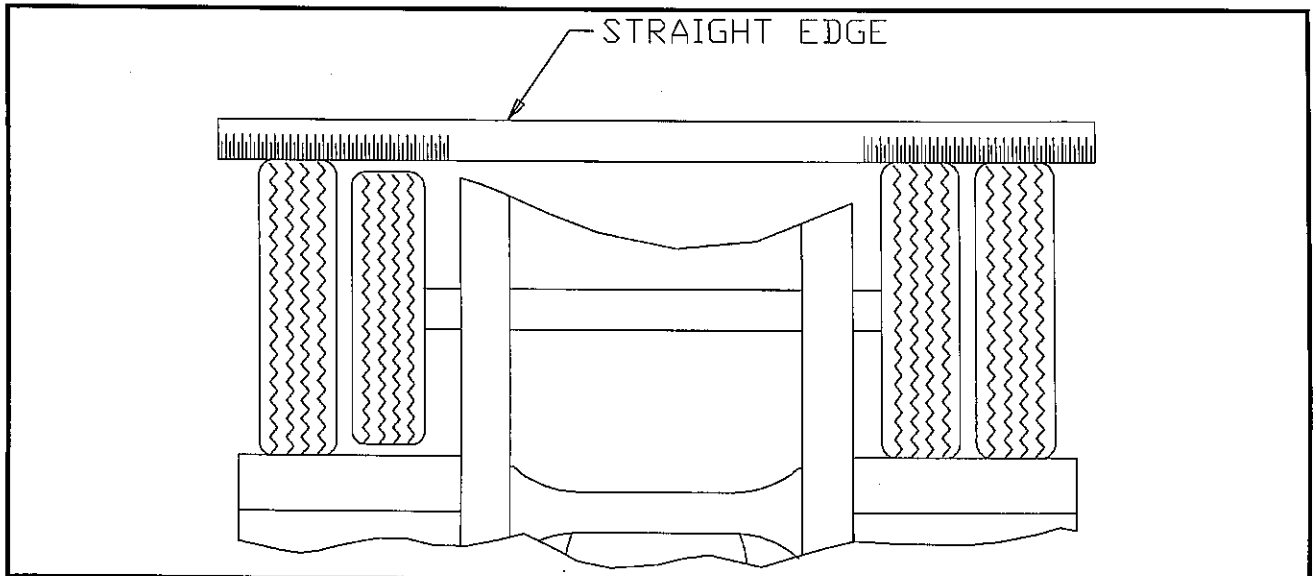

FIG. 6-6 STRAIGHT EDGE METHOD
a. Jack trailer up until the wheels are off of the ground. Hold a straight edge against the tires of both ends of an axle. A gap at one tire indicates a smaller tire. A maximum of $\frac{1}{8}$ " gap is allowed (See FIG. 6-6).